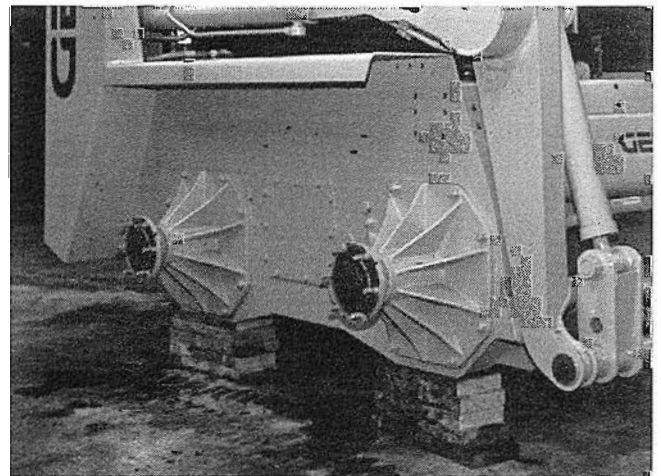

Fig. 28: Skid Loader properly Blocked
3. Place a 7 1/2" stack of wooden blocks under the flat part of the Loader Chassis. They should run parallel with, but not touch, the rear Tires. (See Fig. 28)
5. Repeat steps 2 thru 4 for the front end of the Loader. When the procedure is finished, all four Tires should be off the ground so they can be removed if necessary. (See Fig. 28)